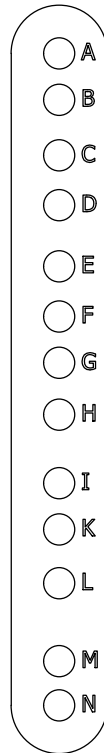

Figure 4.6.1 – bracket
1. Attach the bracket (see figure 4.6.1) as described in the angle settings table (see figure 4.6.2). The bracket comes with the VERA20i loudspeaker (position 5 of the scope of delivery) and the subwoofers (position 4 of the scope of delivery).